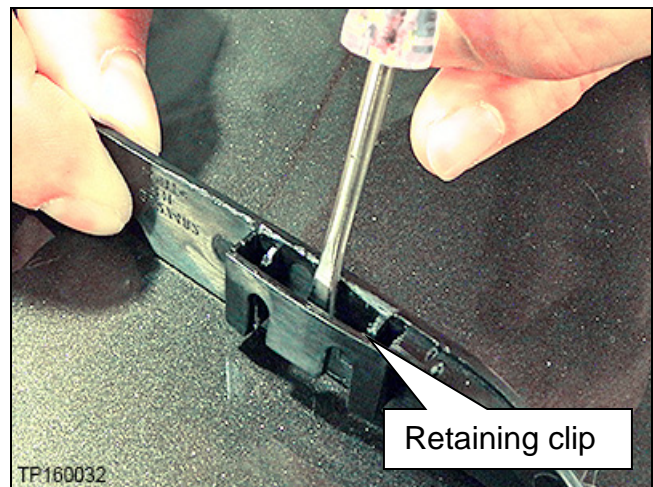

Figure 44
- Figure 44 shows how retaining clip is released.